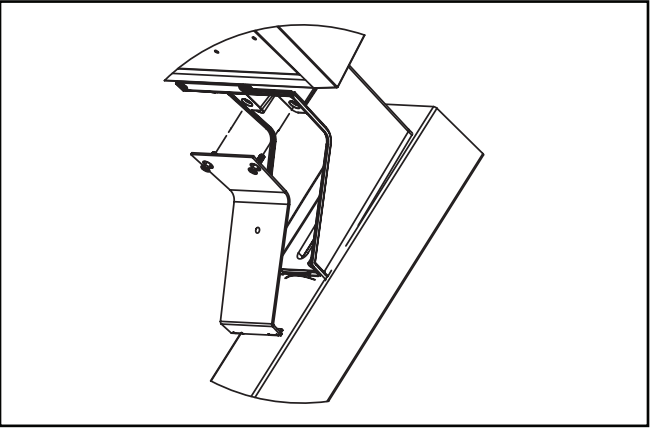

Figure 7.
(Figure 1. – Figure 7.)
**Note:** Ensure the luminaire supply leads do not get pinched between cover and mounting arm. (Figure 7.)